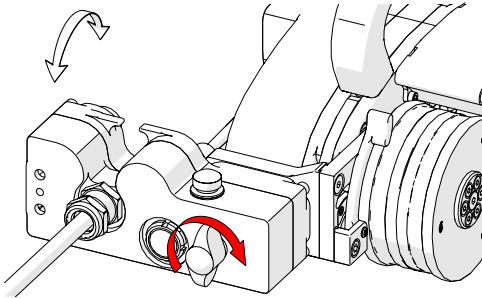

Fig. 87 - Tighten knob
3. Fasten the umbilical to the crawler by tightening the black wing knob (Fig. 87).